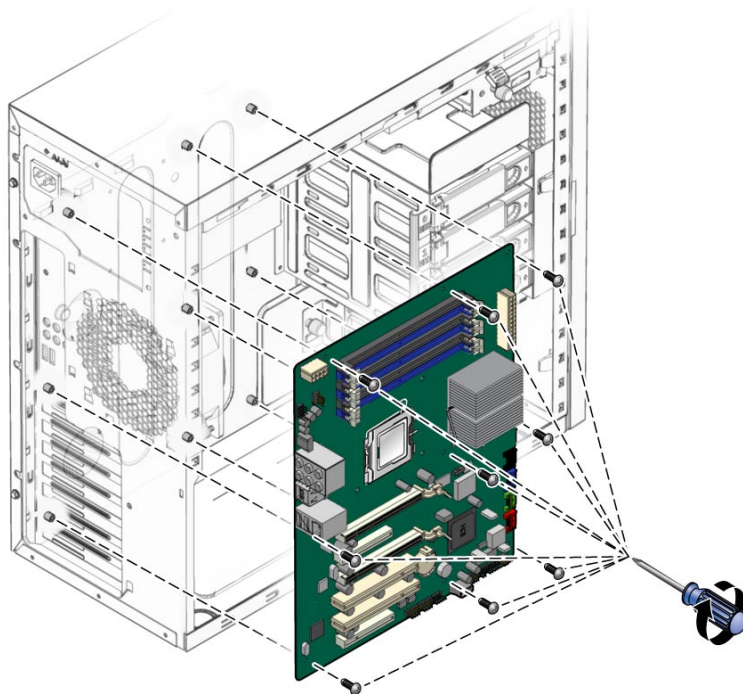

FIGURE 3–36 Installing the Motherboard
- 5 Secure the motherboard to the chassis using the nine Phillips-head screws (see Figure 3–36).